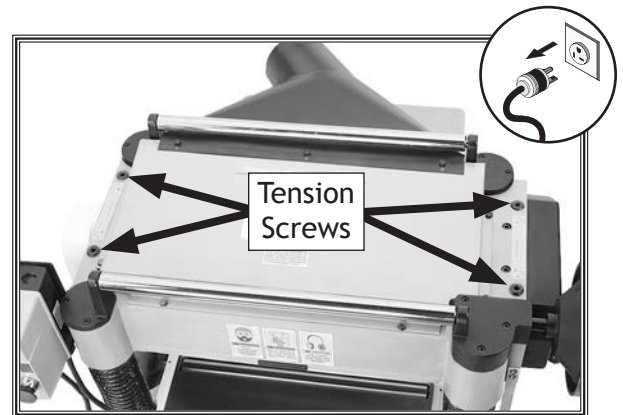

Figure 56. Example of roller spring tension adjustment screws.
2. Rotate tension screws (see **Figure 56**) clockwise to increase tension or counterclockwise to decrease tension.